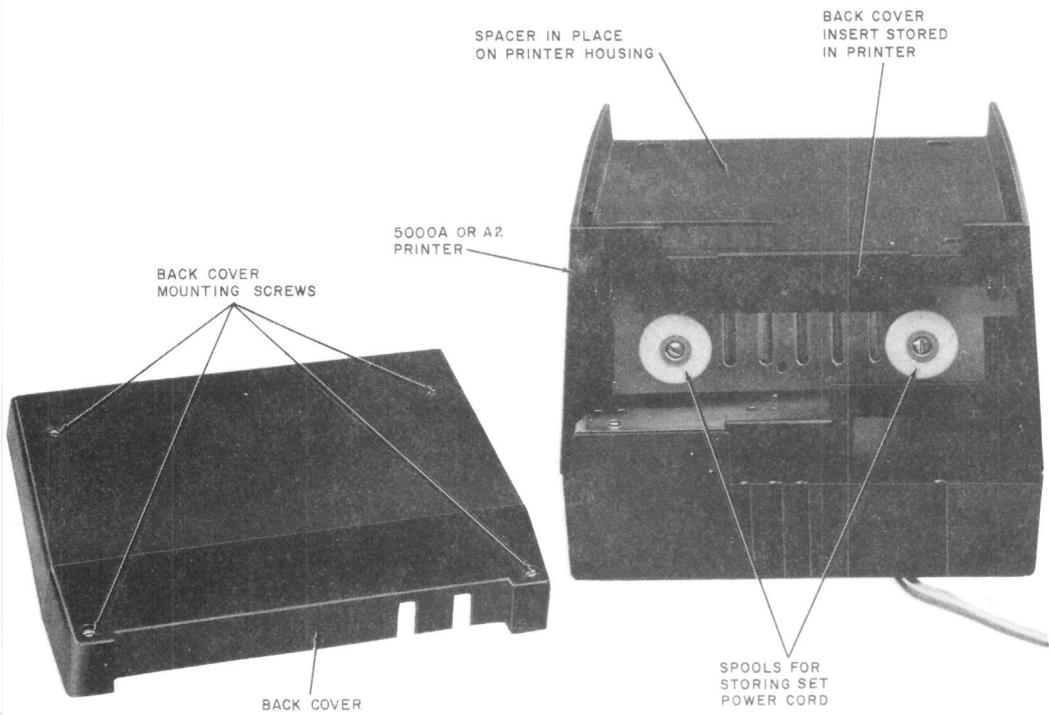

Fig. 10—5000A or 5000A2 Printer With Back Cover Removed
- (3) Remove back cover by releasing the four cover mounting screws (Fig. 10).
- (4) Remove the upper housing by—
- (5) Remove the plastic shroud (5000A2 printer) only, by loosening the two back wing nuts and removing the single front screw.
- (6) Carefully remove ribbon guard by inserting a screwdriver at top of guard and pry outward.